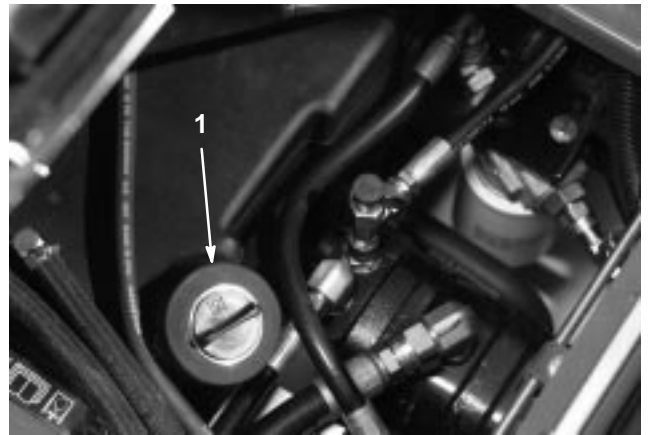

Figure 57
3. Fill the reservoir (Fig. 57) with approximately 8 gallons (30 l) of hydraulic fluid; refer to Checking the Hydraulic Fluid, page 15.